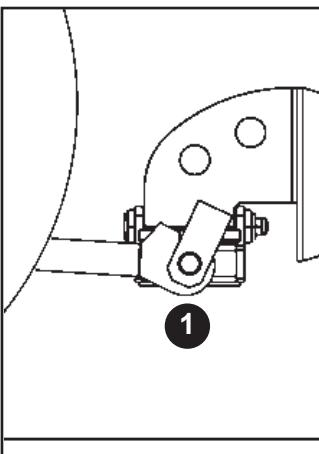

fig. 6
- 1) Hook the lifter bars on the preset pins (1, fig. 6). Block with the snap split pins.
- 4) Unhook the first and second point (Fig. 6).